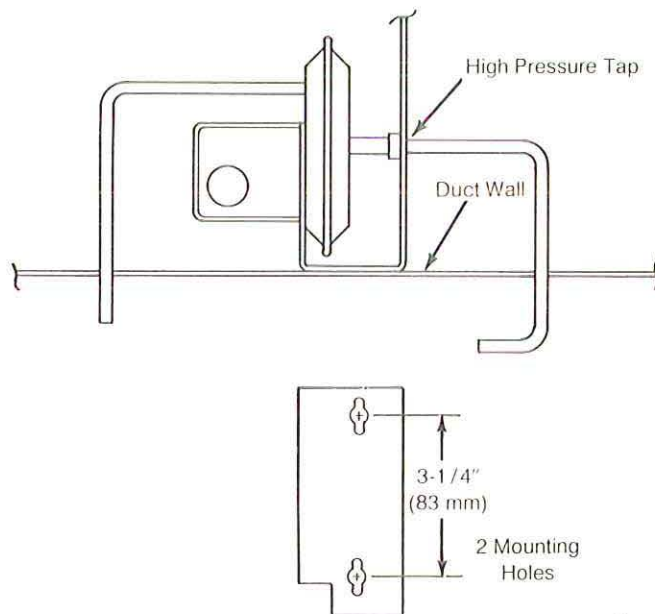

Figure 2. Remote Mounting of Probes
4. With a small screwdriver, adjust the calibration screw. See Figure 2. Turn the screw cw if the control pressure is below 8 psig and ccw if it is above 8 psig. Adjust the screw until the control pressure is 8 ± 1 psi.